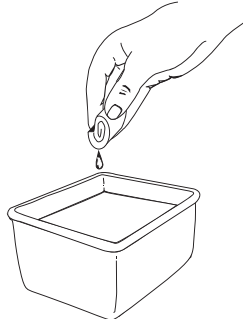

Fig. 25
3. Wash the filter in detergent and water (Fig. 25). Rinse the filter thoroughly and allow it to dry.